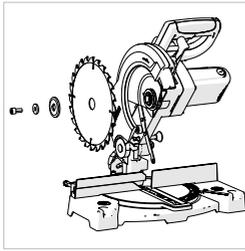

Fig. 27
- Using the supplied Hex Key, release the arbor screw and remove the washer and blade flange and the blade from the arbor. **(Fig. 27)**